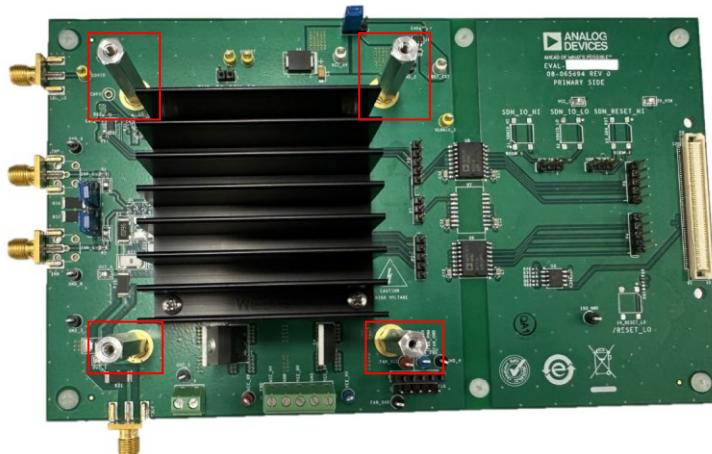

Figure 8. ADHV4710 Evaluation Board with Fan Standoffs Attached
5. Secure the four fan standoffs (PN 2114-440-AL) onto the board with four screws (PN 9900) from the bottom of the board, as seen in Figure 8.